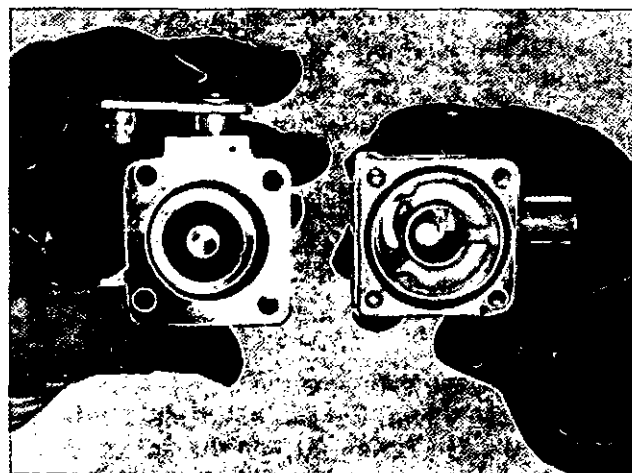

Fig. 6-7, (F533). Check the manual valve.
5. Visually check the valve and the valve seat for wear or corrosion, Fig. 6-7. Replace if necessary.